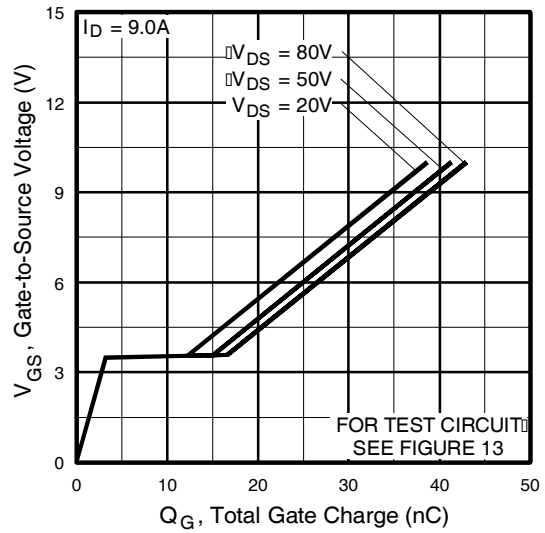

Fig 6. Typical Gate Charge Vs. Gate-to-Source Voltage
| Q _{gd} | Gate-to-Drain ("Miller") Charge | — | — | 20 | | V _{GS} = 5.0V, See Fig. 6 and 13 ④⑤ |